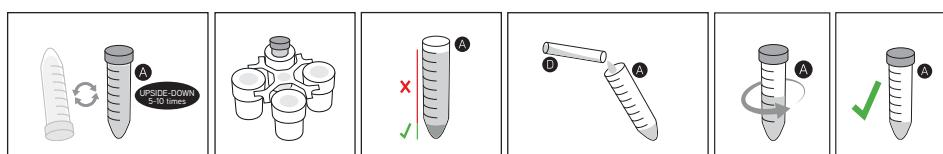

Fig. 4 - Concentration and resuspension
**Concentration and resuspension phase (Fig. 4):(2,3)**
1. Securely screw the cap onto the REACTION TUBE (A) and mix the specimen 5-10 times by inversion.
2. Transfer the REACTION TUBE (A) to a centrifuge and centrifuge at 3300g for 5 minutes.
4. Open the REACTION TUBE (A).
6. Place the REACTION TUBE (A) in a test tube rack and open it.
7. Open the RESUSPENSION TUBE (D) containing 2mL of reagent.
8. Pour the entire reagent volume (2mL) into the REACTION TUBE (A).
9. Close the RESUSPENSION TUBE (D) and discard it.
10. Close the REACTION TUBE (A) and mix the thus treated specimen with a vortexer at 2000-2500 RPM for 5-10 seconds. It is advisable to place the agitator under a laminar flow hood.(3)